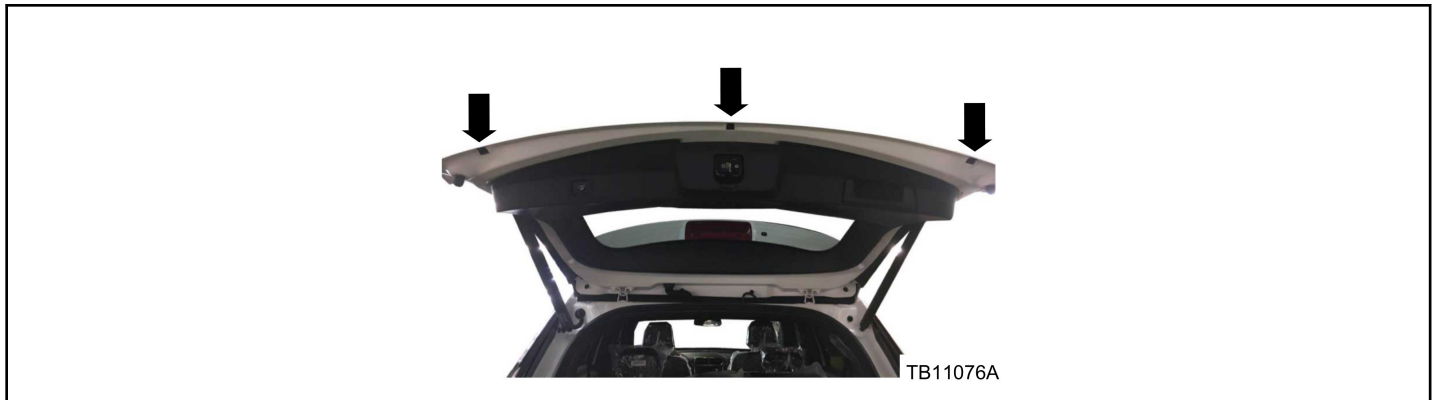

Figure 8 - Article 17-0044
3. Make sure the three (3) liftgate drain plugs are in place and installed correctly on the liftgate. (Figure 8)